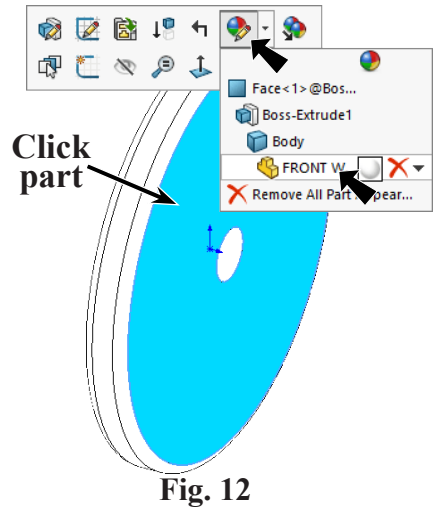

Fig. 12
Step 1. Click the Chassis, click **Appearance Callout**  on the context toolbar and click **FRONT WHEEL** , Fig. 12.